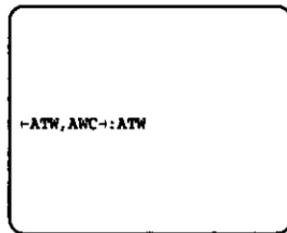

Fig. 9
1. Display the ATW, AWC Menu as shown in Fig. 9 by repeating the previous procedures.